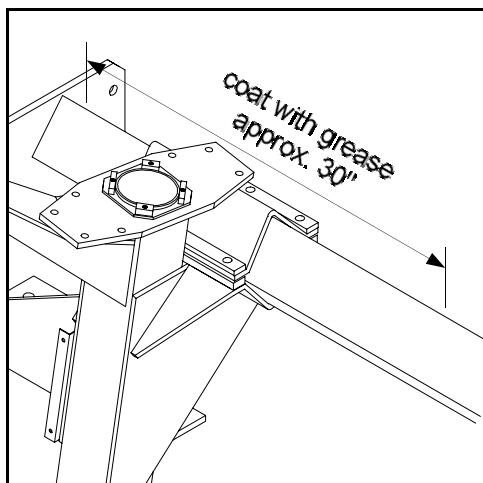

FIG 4.2
4. Lubricate the slide path the leg mount will travel along mainframe (fig. 4.2).